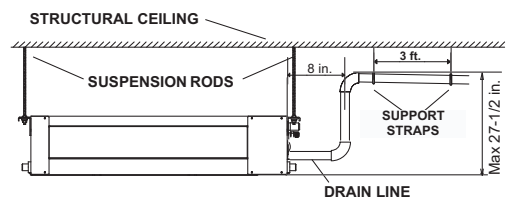

Fig. 15 — Condensate Piping
- The highest point in the condensate piping should be as close to the unit as possible. See Fig. 15.